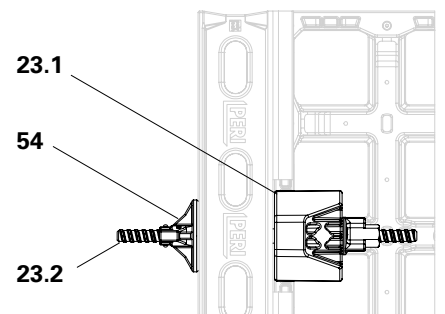

Fig. B5.15c
6. Tighten with the DW 15 wingnut counterplate (54) from the rear by hand or with the DUO cleaning device (8). (Fig. B5.15c + B5.15d)